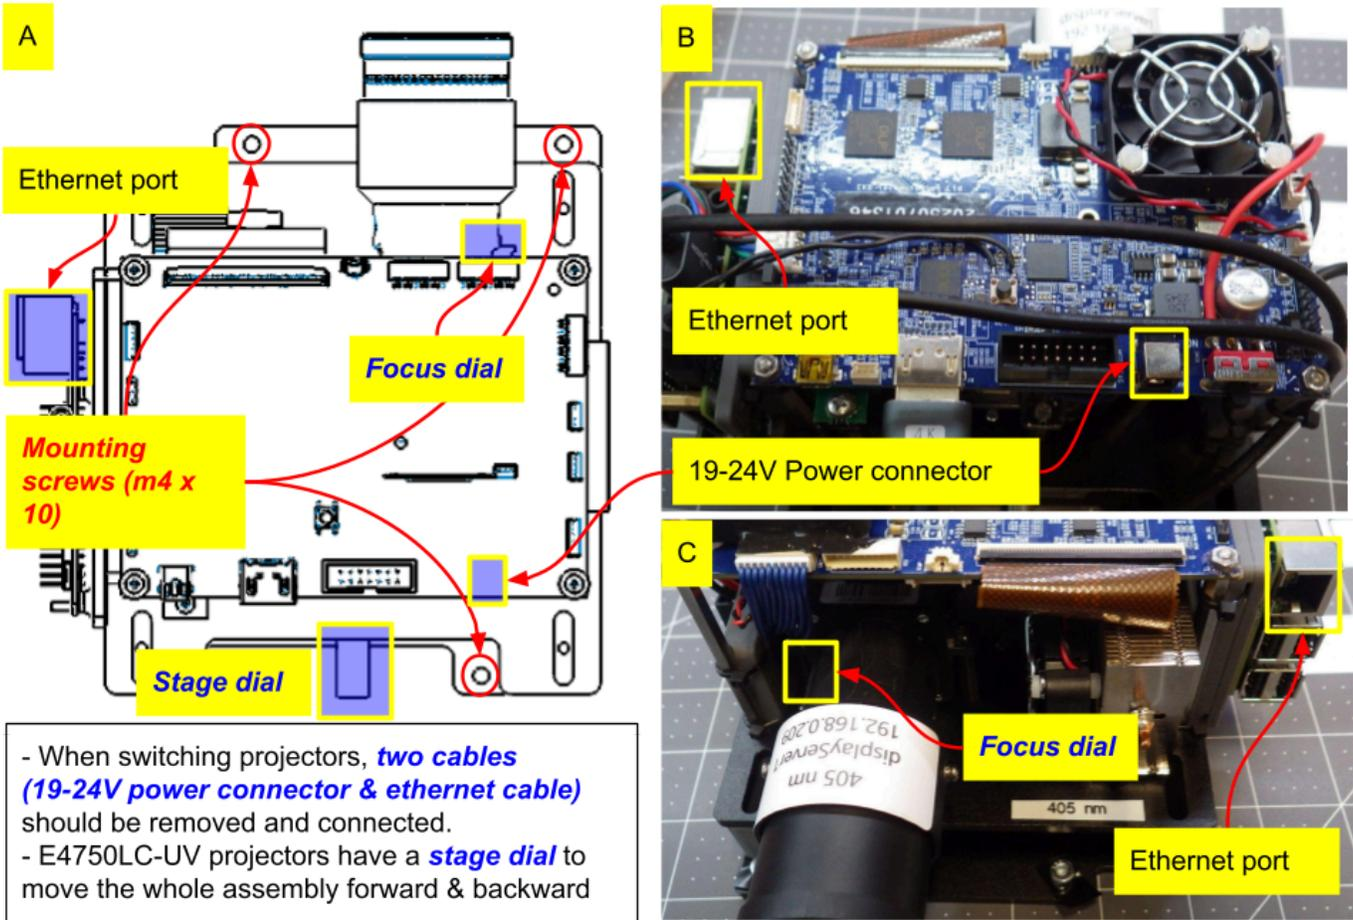

Fig. 9. [1] EKB E4750LC UV projector assembly
- Each projector also has a focus dial (Fig. 9-A and 9-C). Use this dial to adjust the focus on the build surface.